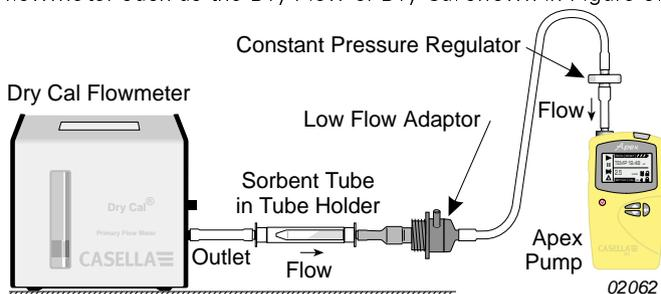

Figure 9: Arrangement using low flow adaptor
3. Starting from the Apex inlet, connect the following: constant pressure regulator, low flow adaptor, sorbent tube holder and a low flow flowmeter such as the Dry Flow or Dry Cal shown in Figure 9.